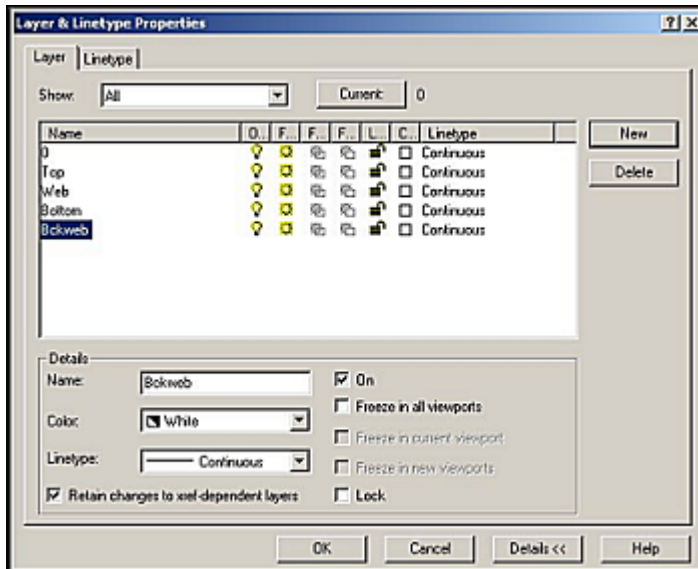

Figure 5
- 2) Create the layers Web, Top, Bottom, and Bckweb as seen in Figure 5.